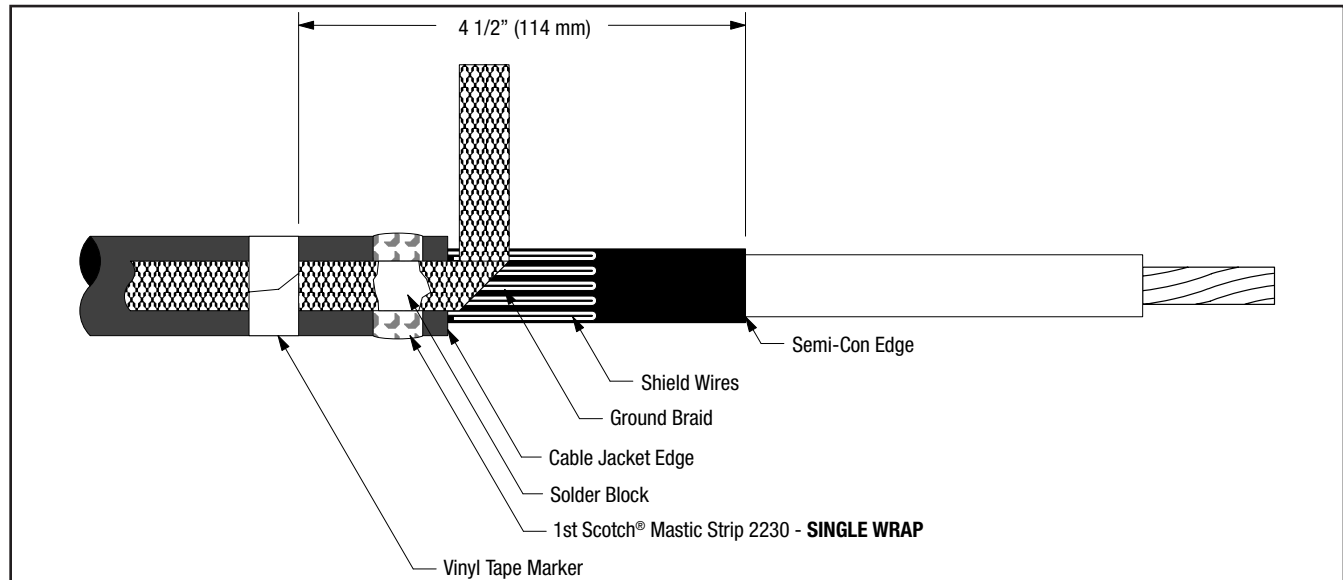

Figure 12
- 8.2 Position pre-formed ground braid with short tail over wire shield directly adjacent to cable jacket cut edge. PLEASE NOTE: The ground braid needs to make full contact with the shield wires. Position long tail of ground braid, extending over cable jacket with solder block over mastic strip (Figure 12). Secure ground braid to cable jacket 4 1/2" (114 mm) from cable semi-con edge using vinyl tape (see NOTE and Figure 12).